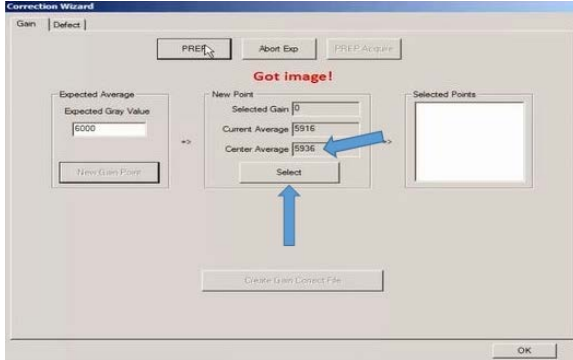
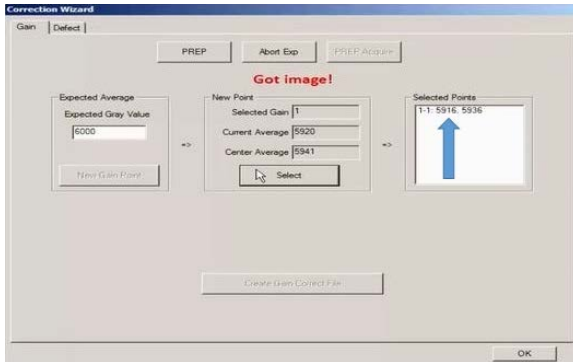

Figure 17: Center Average Value
Figure 18: Selected Points List
- When center average value is within the expected range of 5900-6100, click **Select** (Figure 17) to add that value to the **Selected Points** list (Figure 18).